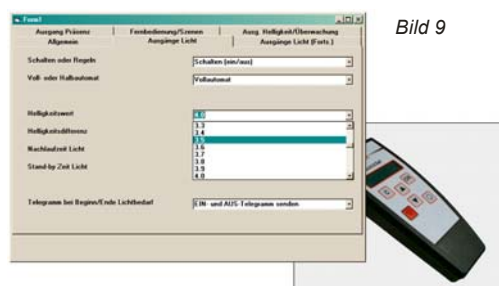

Bild 9
- The value at which the detector no longer shows error flashing, but simply flickers (e.g. 4.1) must be queued in the parameter window of the ETS as the brightness value (Figure 9).